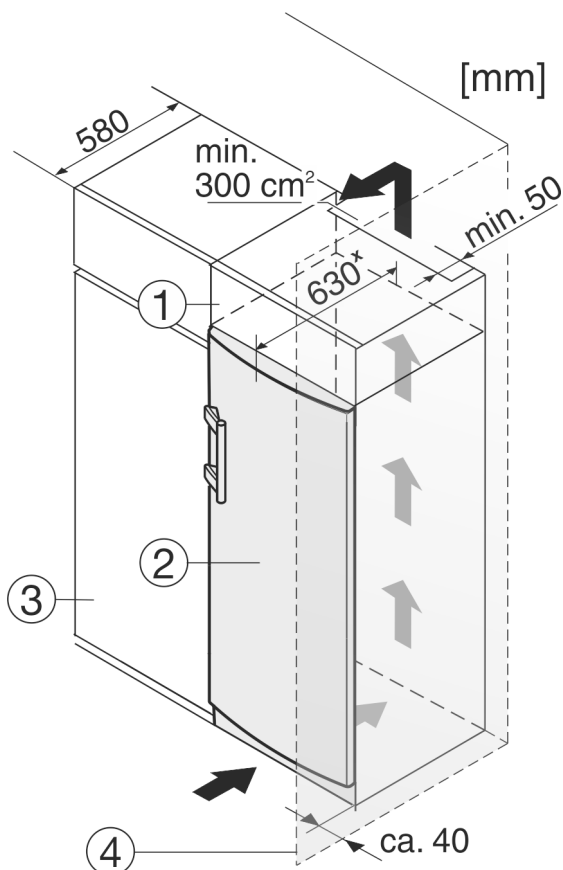

Fig. 10
The appliance can be built into kitchen units. A top cupboard Fig. 10 (2) can be added above the appliance in order to bring the appliance Fig. 10 (1) up to the height of the fitted kitchen units.
When fitting kitchen cupboards around the appliance (max. depth 580 mm), you can install the appliance directly next to the kitchen cupboard Fig. 10 (3). The appliance protrudes 34 mm \* to the side and 50 mm \* in the centre of the appliance in relation to the kitchen cupboard front.
If the appliance is set up with the hinges next to a wall Fig. 10 (4), the distance between the appliance and the wall must be at least 40 mm. This is how far the handle protrudes when the door is open.